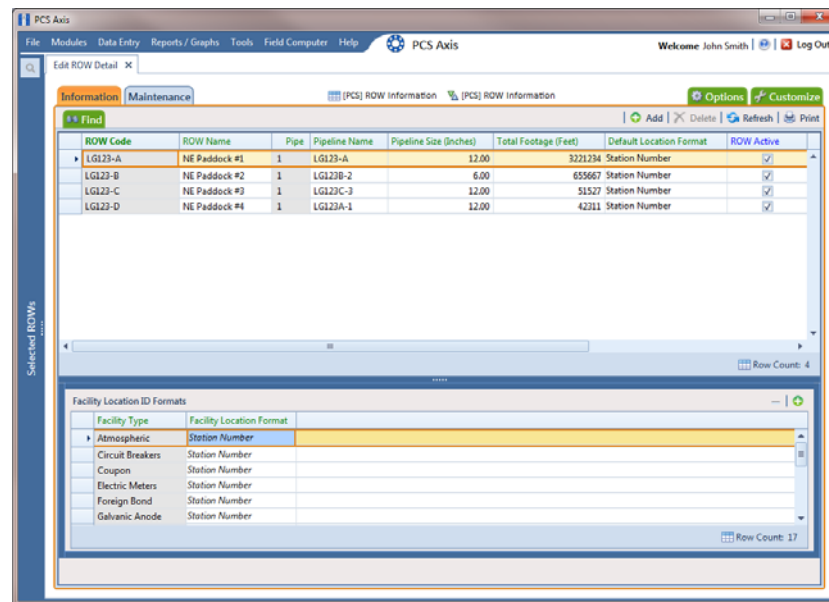

Figure 3-12. Edit ROW Detail
- 2 Click **Data Entry > Edit ROW Details** to open the *Edit ROW Detail* window (Figure 3-12).
- 3 If you want to collapse the *Selected ROWs* panel to view more of the *Edit ROW Detail* grid, click **Selected ROWs**. To expand the panel, click **Selected ROWs** again (Figure 3-12, page 99).